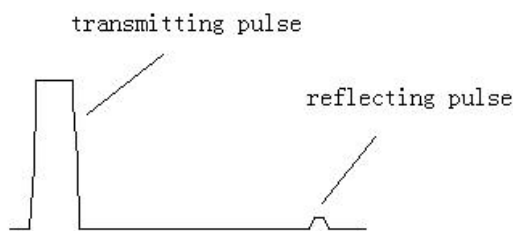
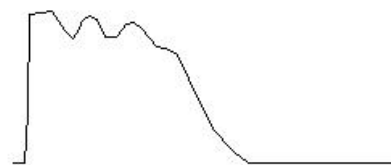

Fig. 3
Fig. 4
4) **Output amplitude:** This is used for adjusting input and output pulse amplitude according to waveform displayed in LCD. If adjustment is not enough, reflection pulse will be very small even can not be sampled(as shown in Fig.3). If over adjust, reflection pulse wont intersect with baseline even baseline will be a oblique line(as shown in Fig.4). Usually, adjust amplitude button to 1/3, then adjust again according to sampling waveform or re-sample.